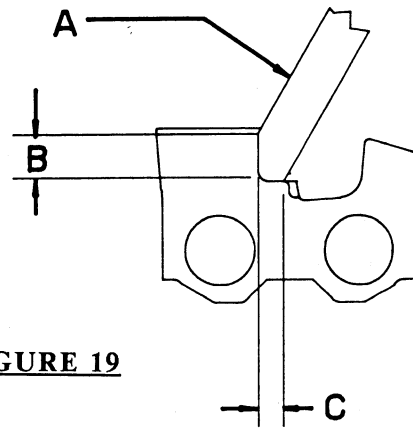

FIGURE 19
14. Dress the **GRINDING WHEEL**. This is one of the most important steps in chain grinding, as the form or shape of the grinding surface of the wheel determines the cutting angles of the chain. (See Figure 19). **READ THIS ENTIRE STEP BEFORE DRESSING THE GRINDING WHEEL!**